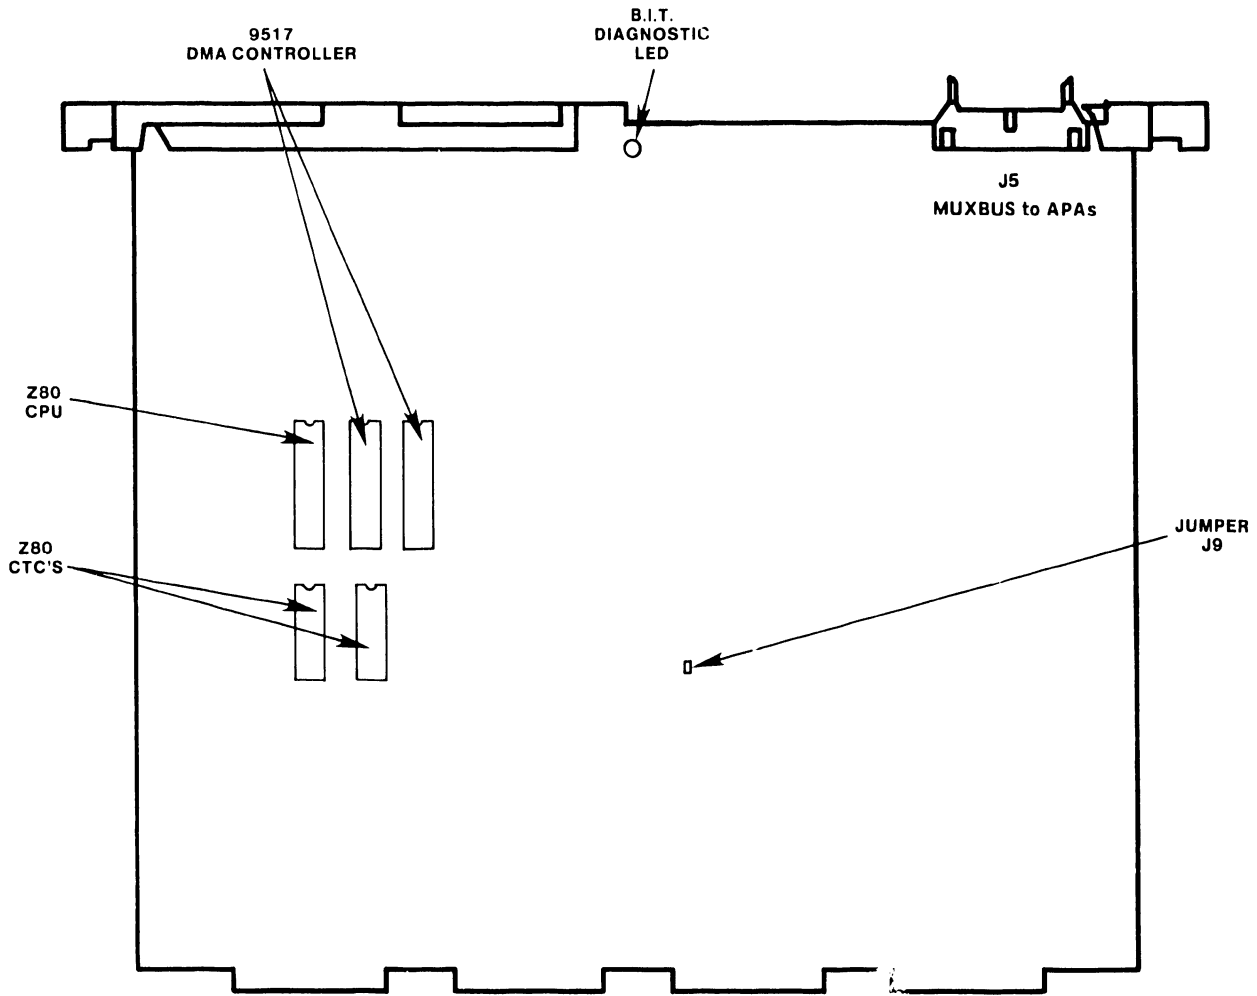

Figure N1-1 32 PORT SERIAL CONTROLLER BD.
The 32 Port Serial Controller is a modularized, Z-80 based, 32 port, 928 daughter board controller which mates with the 7826 TC IOP. It has a MUXBUS connection which will support connection of elements of the Modular 928 Serial I/O Subsystem, such as Electrical APAs. Resident on the board are 64Kx9 of DRAM, a Z-80 microprocessor, two Z-80 CTCs, two 9517 DMA Controllers, a discrete DMA controller, two 2Kx8 Static RAMs, and a diagnostic LED for BIT testing. (Ref. Fig. N1-1.)
1. Prior to installation, ensure that J9 pins 1 and 2 are jumpered together (ref. fig. N1-1). This jumper is not intended for field use and must be in at all times for proper operation of the controller.
Troubleshooting the 32 Port Serial Controller Board is accomplished with BIT (Built In Test) capabilities. On power up, the diagnostic LED located on the Controller (ref. fig. N1-1) will light. After approximately 10 seconds the LED will extinguish indicating the board has passed all built in diagnostic tests. If the LED remains lit, a fault is indicated.